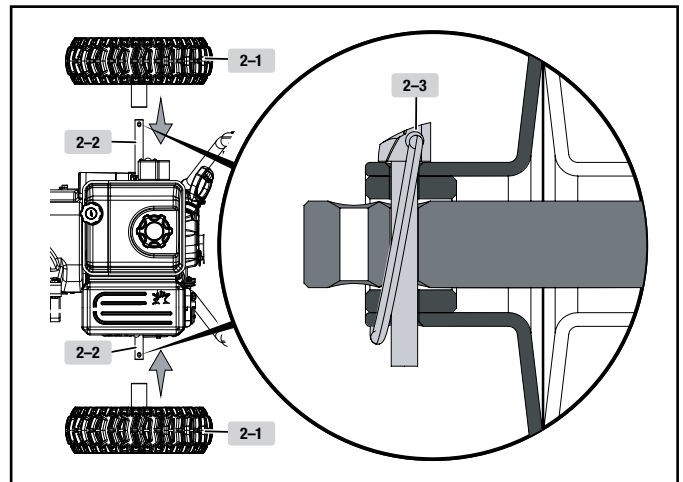

Figure 2
1. Slide the left wheel (2-1) onto axle (2-2) as the arrow shows. Tread pattern should face forward. Place axle pin (2-3) into wheel. The axle has a center hole to attach the wheel to the axle (which connects to the drive train). Once inserted, fold ring around axle to hold in place (Fig. 2).